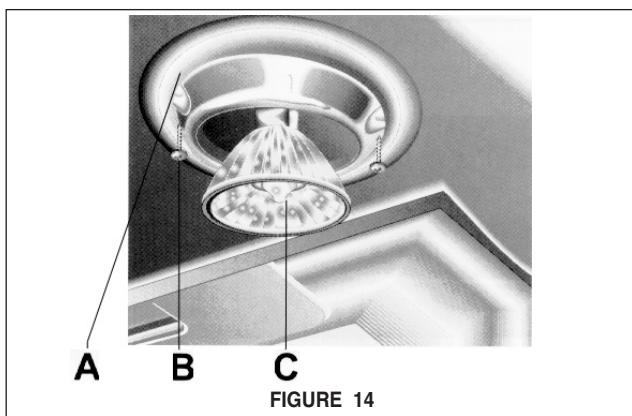

FIGURE 14
Before you begin, make sure that the rangehood is turned off and that the other lamps have had sufficient time to cool. Halogen bulbs burn extremely hot and serious injury could result from touching a hot bulb. To replace the lamp, the bezel (A) around the lamp(C) must be removed as indicated in **FIGURE 14**. This bezel (A) is held in place by two screws (B). Remove the two screws and the bezel. Then remove the lamp and replace with a new lamp. Once the new lamp is in place, reinstall the bezel.